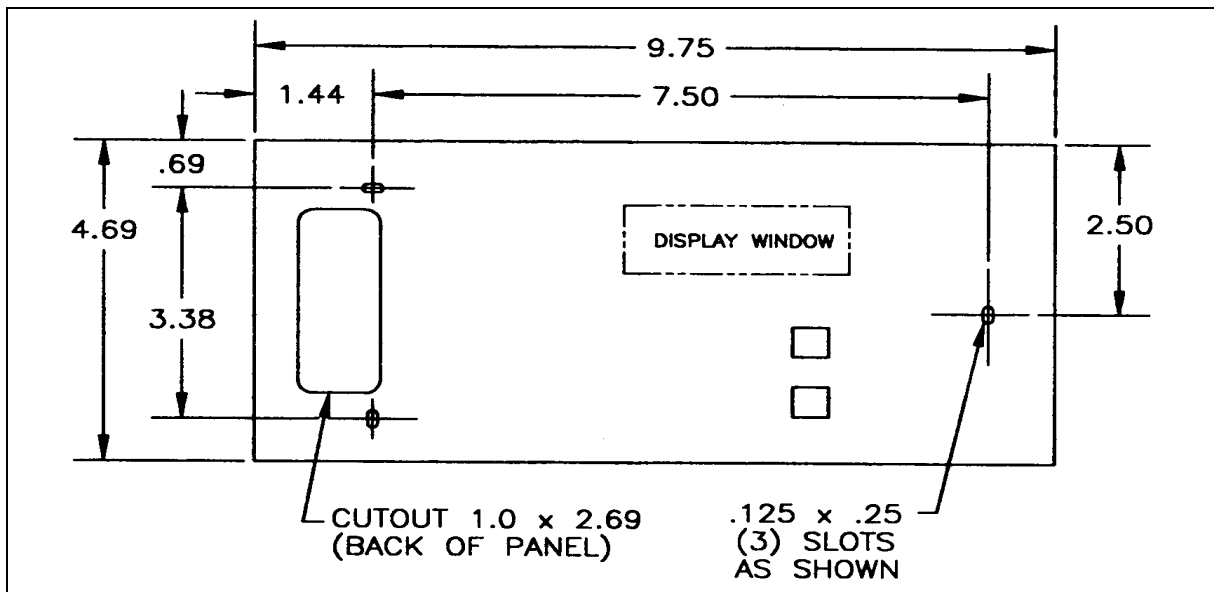

Figure 3: Wall mounting hole location
2. Remove the cover of the MINI-DAP II panel. Place the panel against the wall, mark the location of three mounting holes. See figure 3.